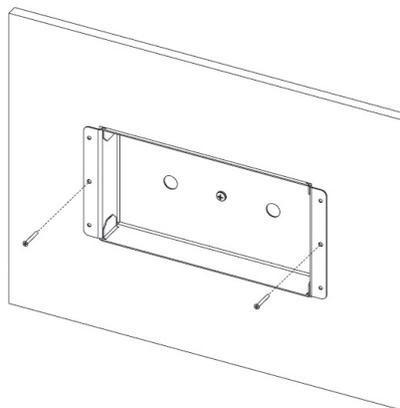

Figure 11
6. There are two middle holes in the back can flanges to secure and align the can for visual straightness. **Note:** Be very careful because these holes are very close to the drywall edge and if miss aligned drywall edge damage may occur. See Figure 11.